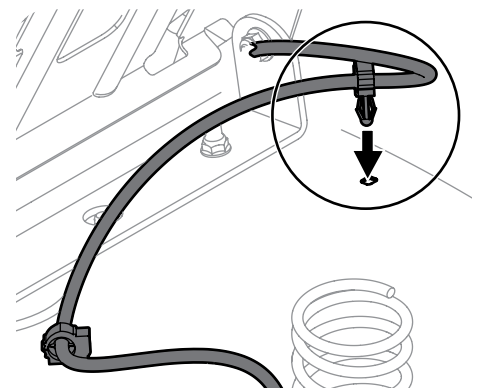

Figure 2-5
- Using the harness clips (if equipped) attached to the harness, secure the excess wire to the fender by snapping the harness clips in place as shown in Figure 2-5.